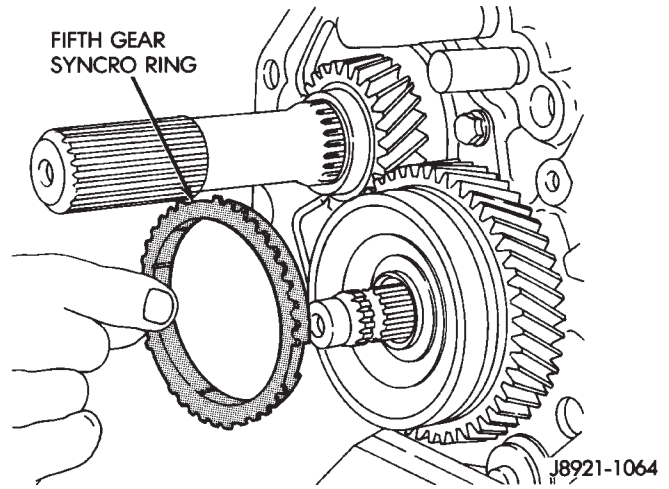

Fig. 99 Install Fifth Gear Synchronizer Ring
(30) Install fifth gear synchronizer ring (Fig. 99).
(31) Position fifth gear blocker ring onto countershaft. Verify that blocker ring and countershaft splines are aligned.
(32) Using a suitable driver and mallet, seat the blocker ring onto the countershaft.
(33) Select the thickest snap-ring the will fit into the snap-ring groove of the countershaft.